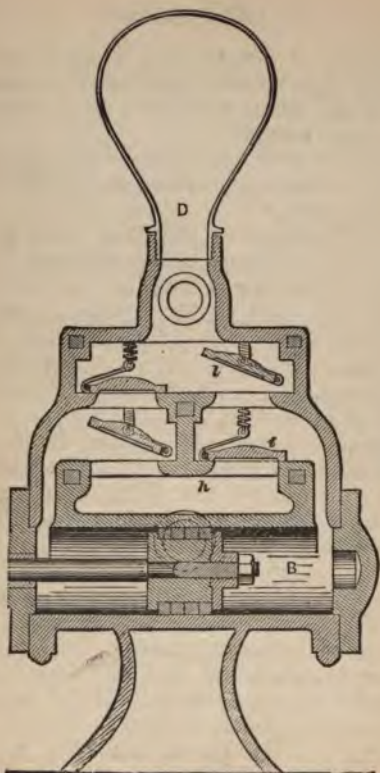

FIG. 34 —CARRICABURU WATER END, LENGTH-
A. Referring to the four cuts given herewith: Figs. 34 and 35 represent longitudinal sections of both steam and water cylinders, and readily exp'ain the whole arrangement. The principal feature is to be found in the valve, which is of the steam-actuated type. This valve, which is marked *F* in the cut, is moved by two small pistons, *G* and *G'*, working in special cylinders, as shown. The steam and exhaust ports for the pump cylinder are marked 4, 5, 6 and 7, while 10 is a port from this cylinder into a cylinder containing the valve piston *G*, and 8 a similar port to the cylinder containing the piston *G'*; 11 and 9 are ports between exhaust ports 5 and 6 and the cylinders *G* and *G'* respectively. Presuming the parts to be in the position shown, the steam is passing through the port 7 and the piston is moving to the